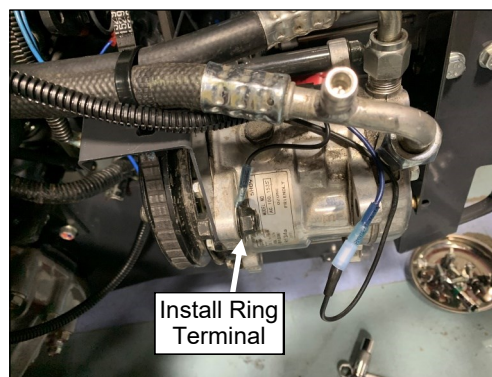

Fig. 7.13 (Connect Dynamo Wiring)
- 7.14 Remove the bolt shown in figure 7.13 and install the 3/8" ring terminal from the A/C harness onto the bolt so that it is contacting the ear of the compressor.